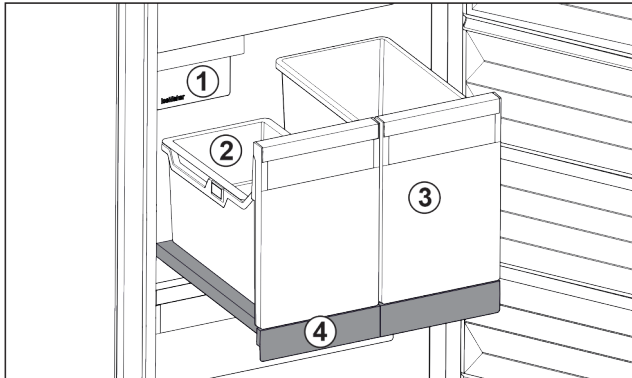

Fig. 98 Pull-out board with IceTower
- (1) IceMaker
- (2) Hang-on tray for ice cubes
- (3) Container for pizza or alcoholic beverages, for example
- (4) Pull-out board
There are two high (IceTower) containers on the pull-out board. Ice cubes from the IceMaker are collected and stored in the Fig. 98 (2) container. The container Fig. 98 (3) is suitable for storing tall foodstuffs or beverages such as pizzas or alcoholic drinks.